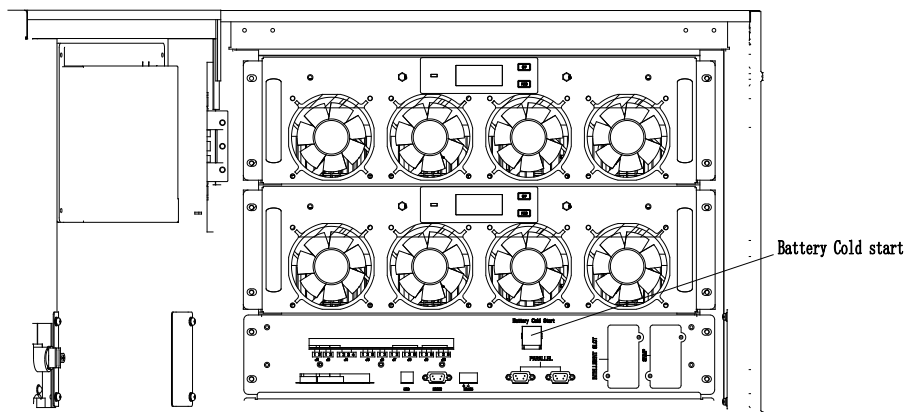

Fig.4-1 The position of the battery cold start button
2. Press the red button for the battery cold start (as shown in Fig. 4-1). The system is then powered by the battery.